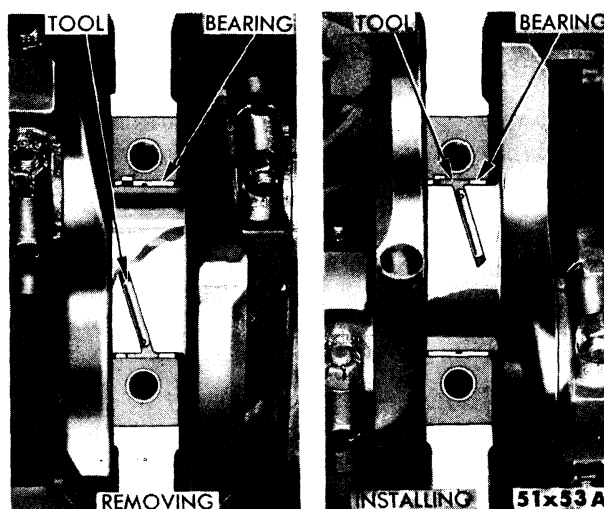

Fig. 86—Removing and Installing Main Bearing Seals
- (1) Loosen and remove the main bearing caps, one at a time. Insert the pin end of Tool C-3059 into the oil hole of the crankshaft, as shown in Figure 86. Slowly rotate the crankshaft clockwise forcing the upper bearing shell out of position for easy removal.